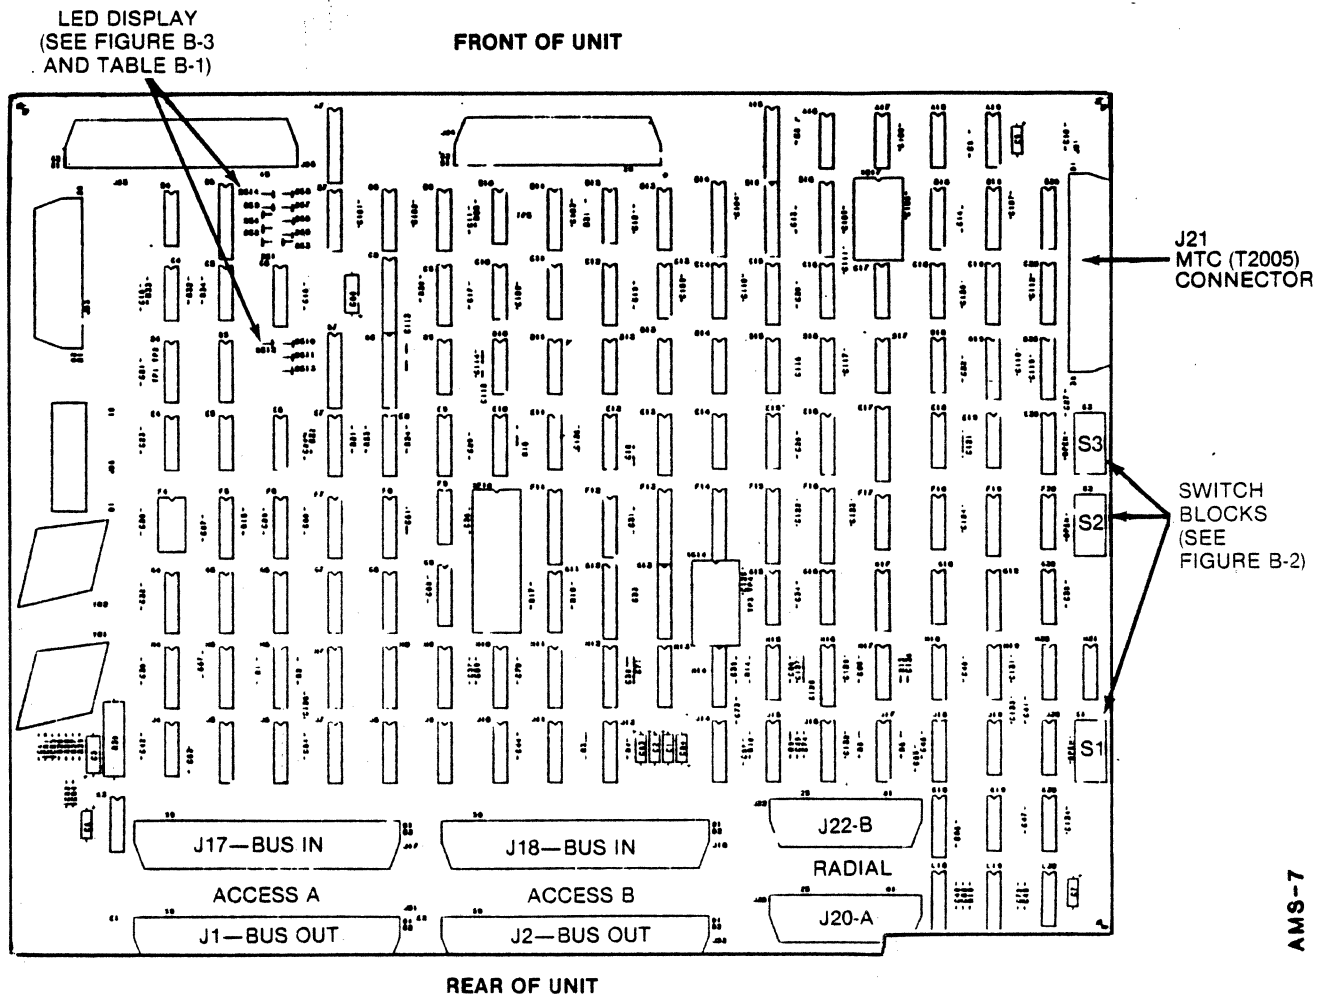
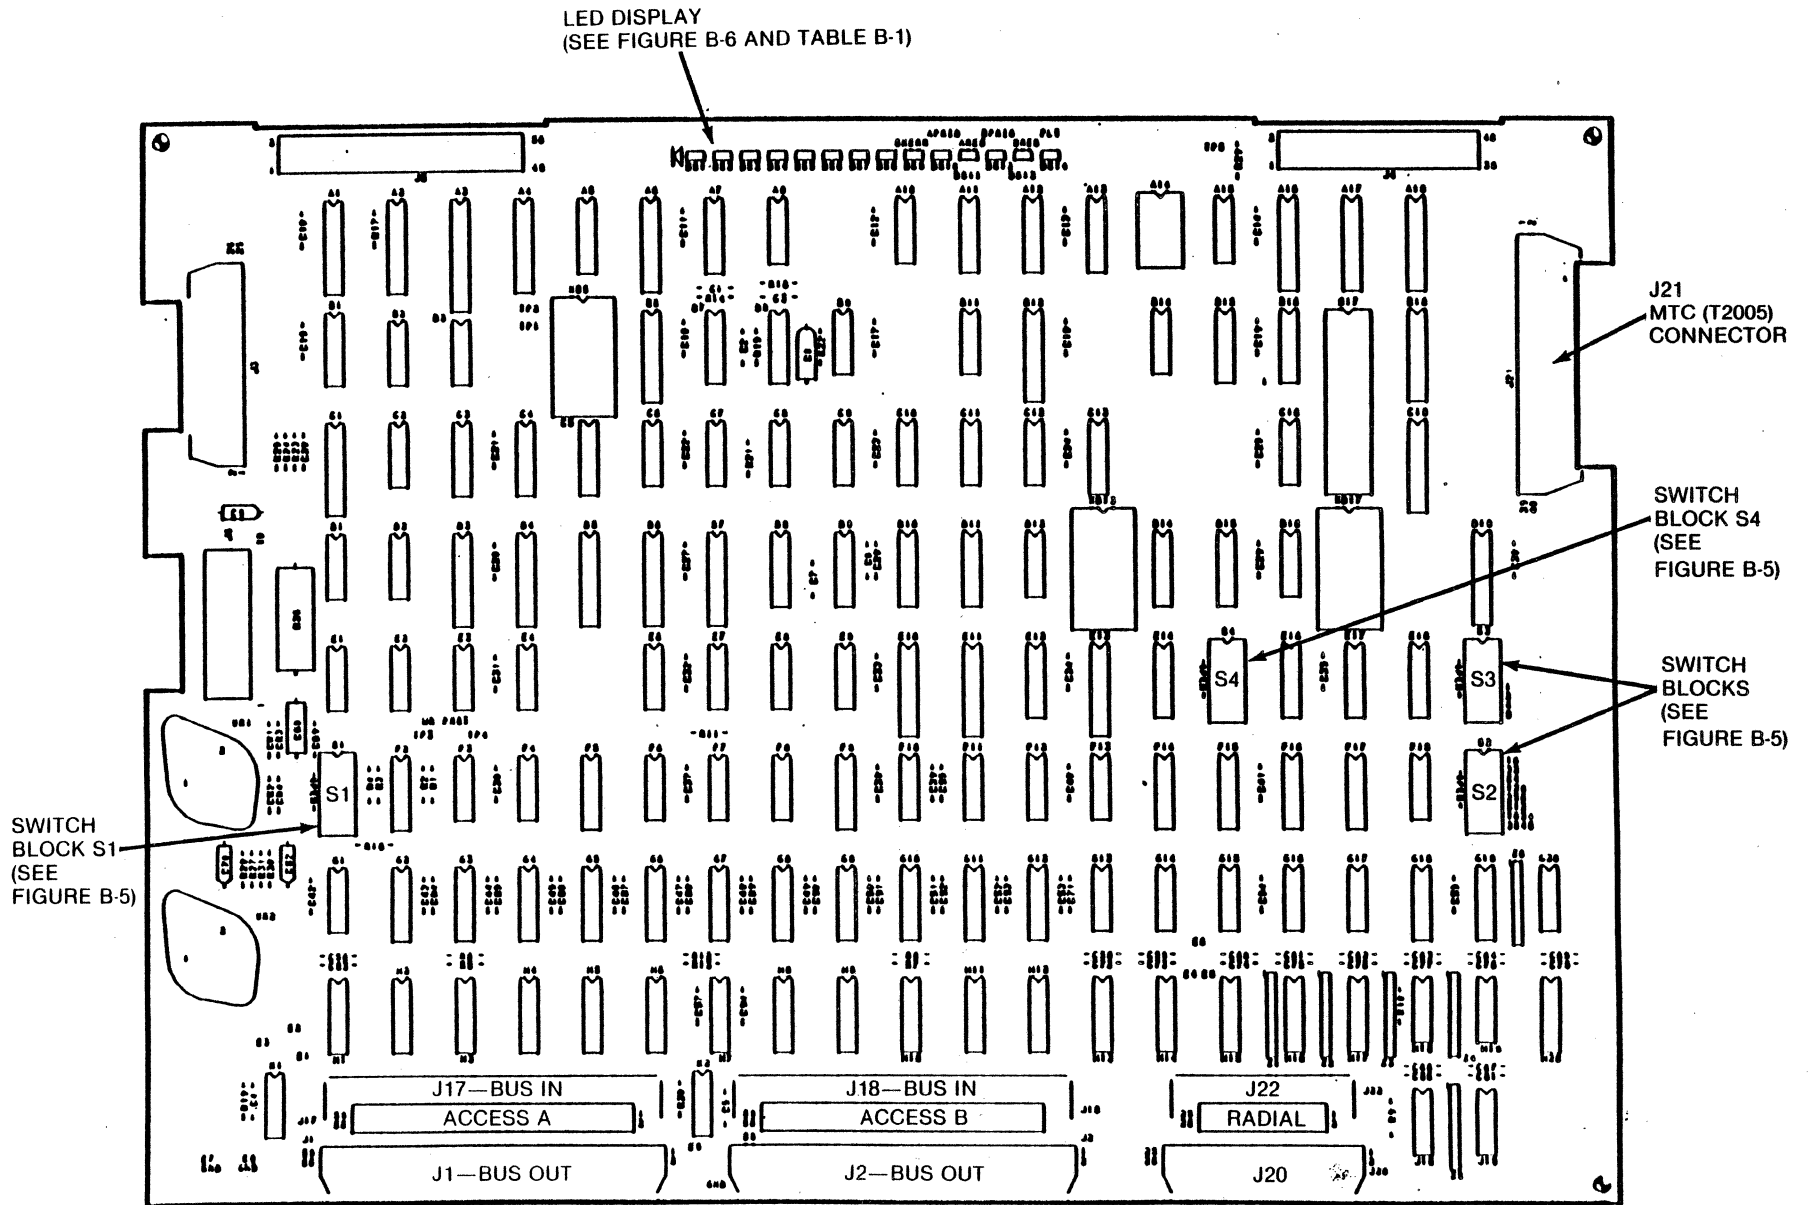

Figure B-1. SMD Dual Access I/O PWB (P/N 26310-001)
Figure B-4. SMD Dual Access PWB (P/N 27300-001)
2. Figures B-1 and B-2 show the three switch blocks located on the P/N 26310-001 SMD Dual Access I/O PWB. Figures B-4 and B-5 show the three switch blocks on the P/N 27300-001 SMD Dual Access I/O PWB.
3. Each SMD Dual Access PWB also contains 14 Fault (Maintenance) and Access indicators (LED's that are shown in Figures B-1 and B-4. Refer to Table